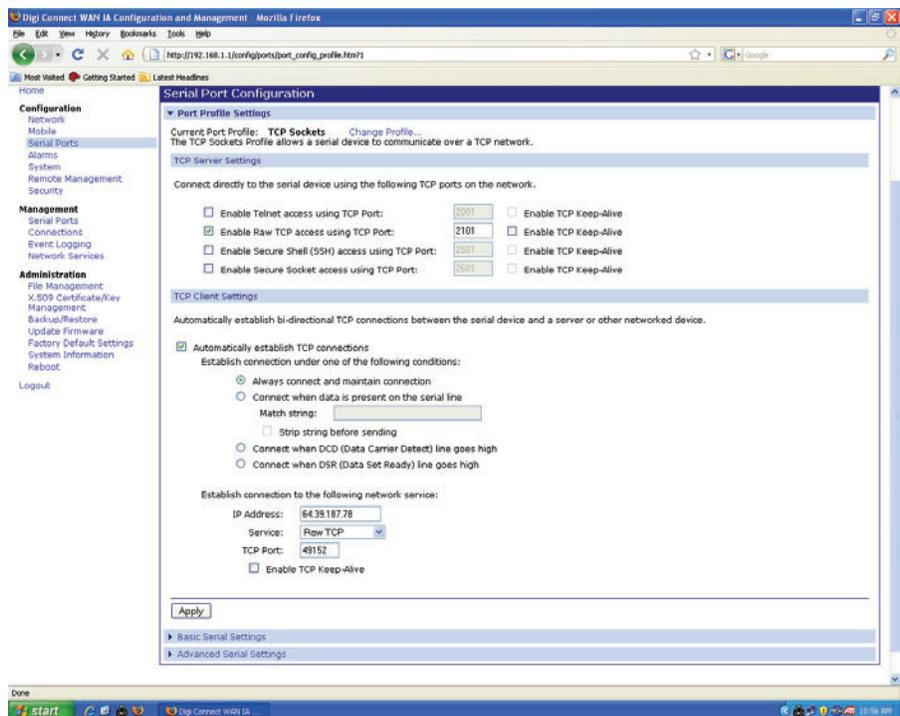

Figure 5-17 Serial Port Configuration
- 11) Make sure the *Serial Port Configuration* matches the screen in Figure 5-17. Enter the IP Address provided by your Internet Service Provider in the IP Address field. The TCP Port should be set to “49152”. When finished, click Apply.